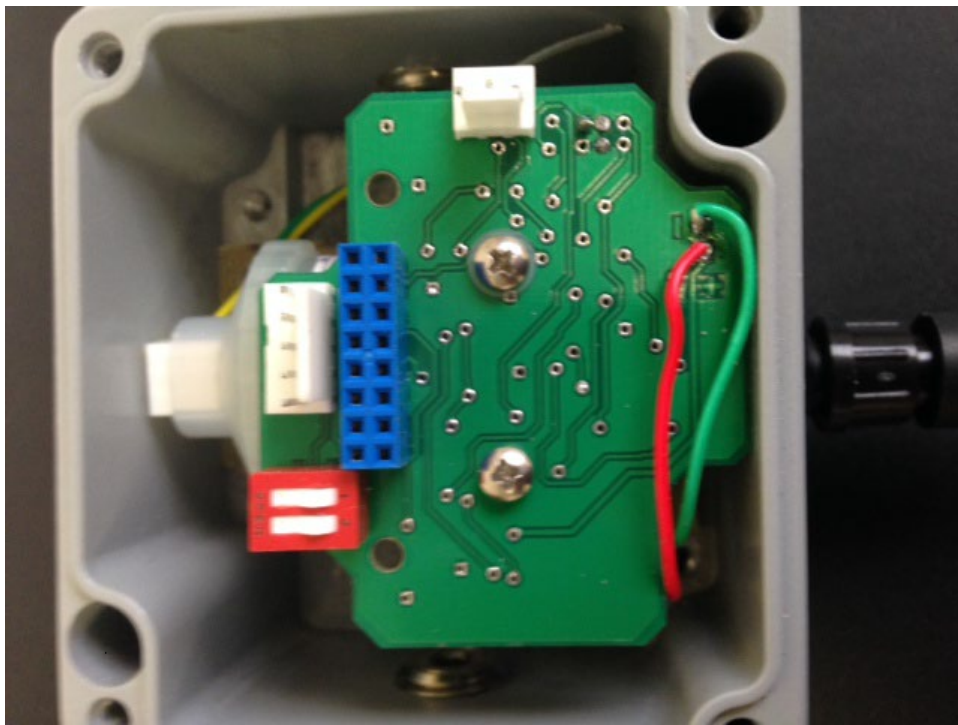

Figure 3
3. Remove the cell holder (Figure 3). Remove the screws from the PCB, unplug the white connector with the yellow and green wire from the cell. Remove the old cell as needed,